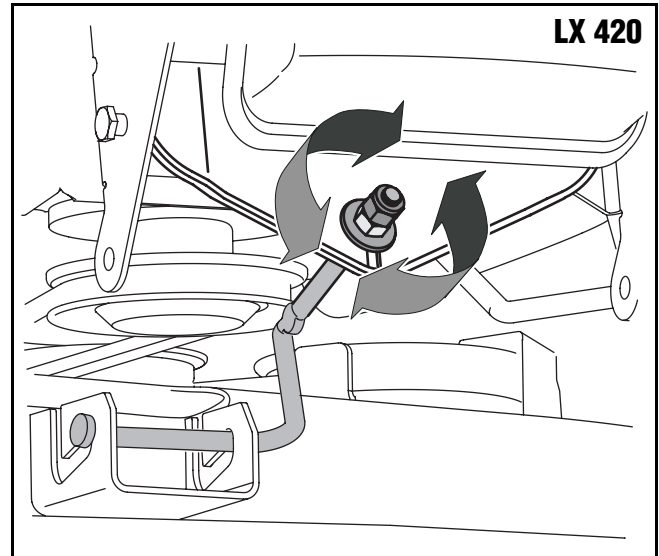
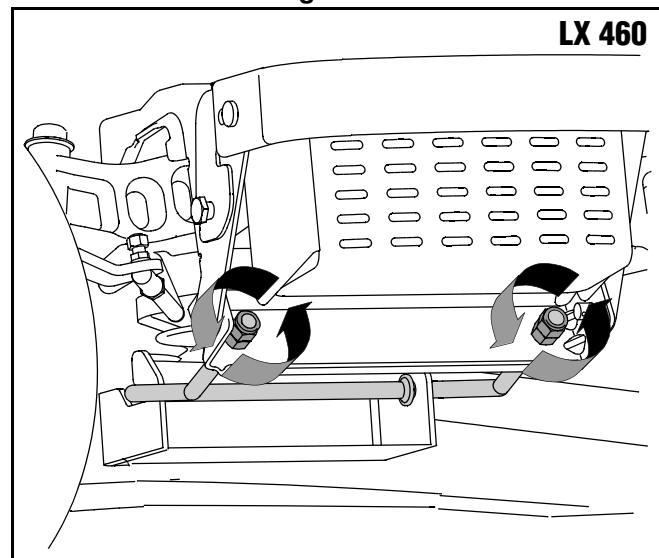

Figure 10
Figure 11
- From the front of the tractor, loosen the outermost hex lock nut on the end of the deck hanger rod. See Figure 10 or Figure 11.
- Tighten the inner hex nut front against the front hanger bracket to raise the front of the deck; loosen the hex nut to lower the front of the deck. See Figure 10 or Figure 11.